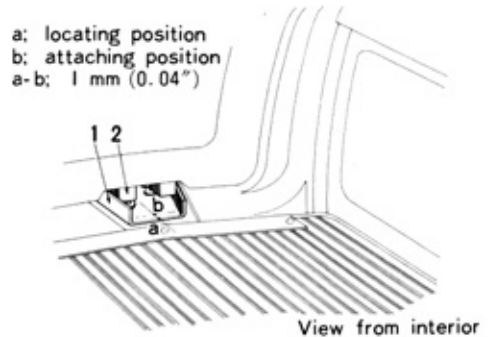

Fig.1-136 Back Door Side G0753 Stopper Adjustment
1. Loosen the female lower stopper (1) adjusting screws.
2. Close the back door and position the female lower stopper against the male lower stopper (2) from the inside as shown in Fig.1-136, and mark the position of the female lower stopper (a).